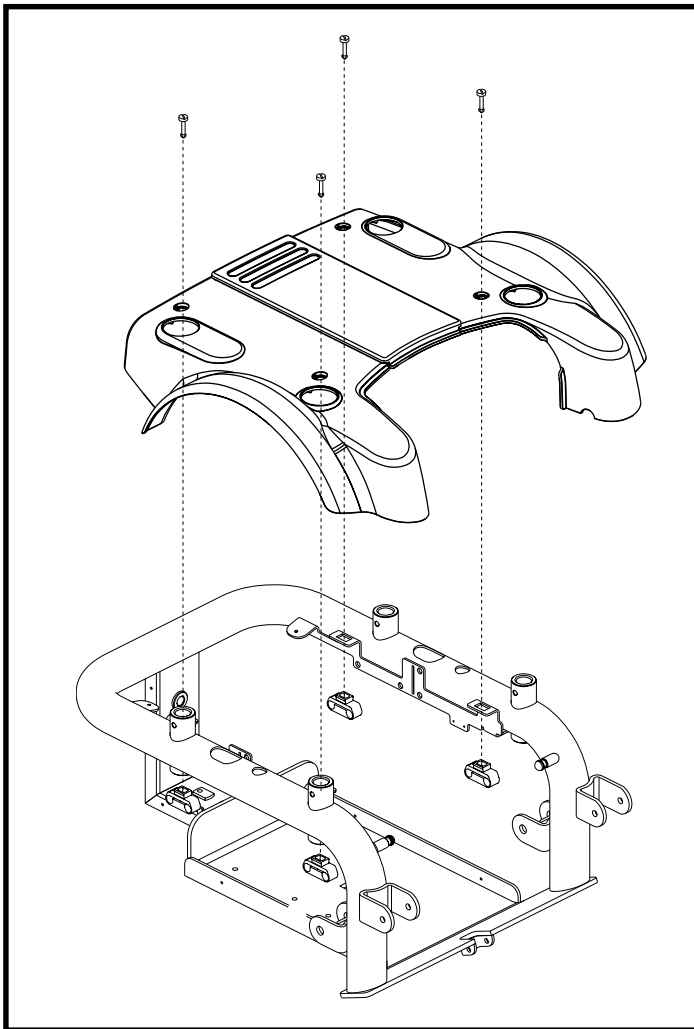
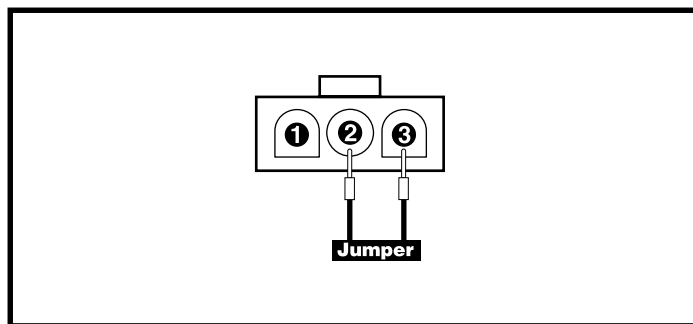
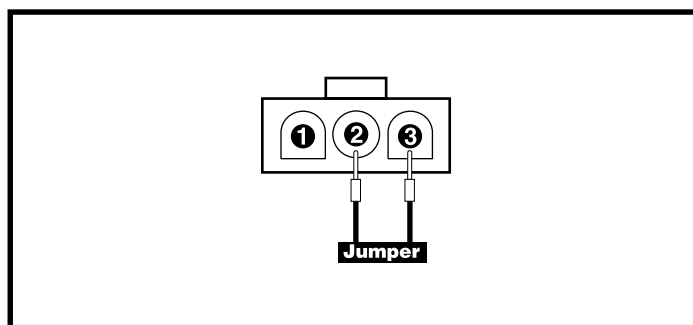

Figure 11. Jazzy 1121 Shroud Disassembly/Assembly
Figure 13. Connector 7b - jumpered
Figure 14. Connector 3b - jumpered
3. Remove the shroud. **See figure 11.**
6. Place a jumper into pin 1 and pin 2 on connector 7b and try to operate the power chair. **See figure 13.**
- *If the power chair runs*, then replace the onboard battery charger (6) and retest the system.
8. Place a jumper into pin 1 and pin 2 on connector 3b and try to operate the power chair. **See figure 14.**
- *If the power chair runs*, then replace the charger interface harness (7) and retest the system.
9. Unplug connector 3c from the power module (4). **See diagram 2.**
- *If the power chair runs*, then replace the charger/joystick interface harness (3) and retest the system.
- *If the power chair does not run*, replace the power module (4) and retest the system.
15. Remove the shroud. **See figure 11.**
25. Remove the shroud. **See figure 11.**